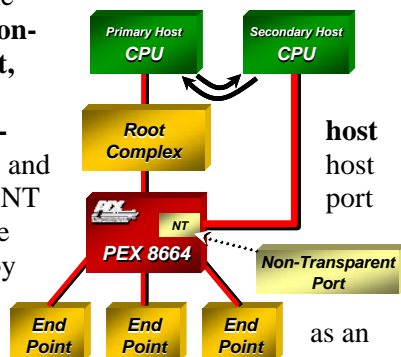

Figure 3. Non-Transparent Port
In Single-Host mode, the PEX 8664 supports a **Non-Transparent (NT) Port**, which enables the implementation of **dual-systems** for redundancy and failover capability. The NT allows systems to isolate host memory domains by presenting the processor subsystem endpoint rather than another memory system. Base address registers are used to translate addresses; doorbell registers are used to send interrupts between the address domains; and scratchpad registers (accessible by both CPUs) allow inter-processor communication (Figure 3).